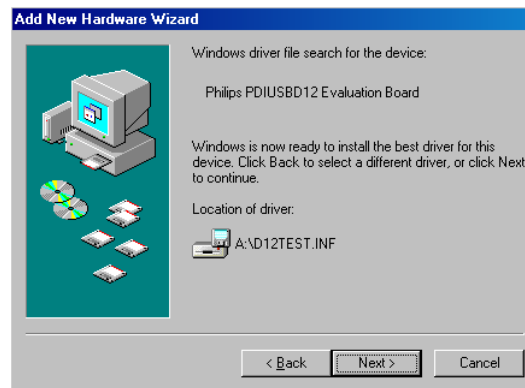

Figure 2-7: Add New Hardware Wizard
- When a dialog box similar to Figure 2-7 appears, click **Next**.